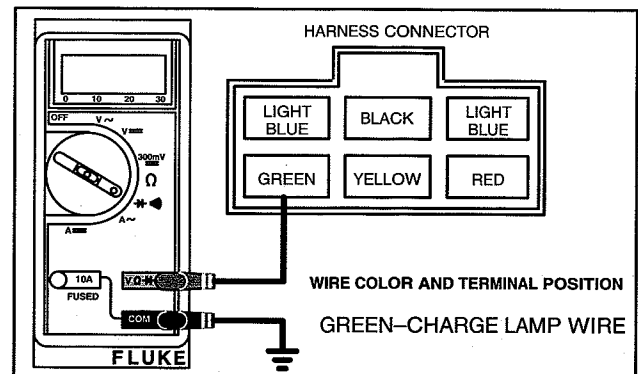

Fig. 16 – Testing Bulb And Wiring
2. Check continuity between charging indicator wire (green) and ground, Fig. 16.